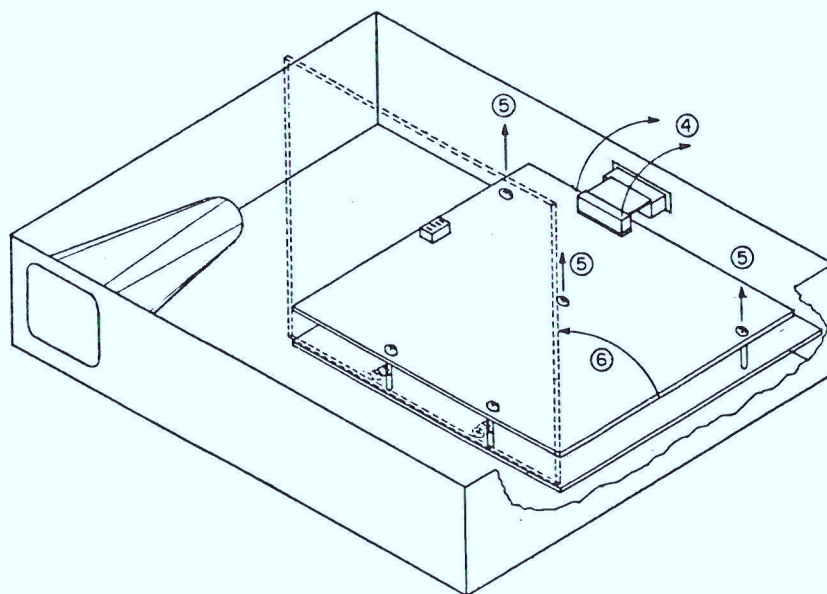

FIGURE 5. ACCESS TO LOWER CIRCUIT BOARD
Refer to Figure 5 and do the following:
4. Referring to Figure 5, locate the cable between the upper circuit board and the REMOTE CONTROL rear panel connector: unplug this cable from the board.